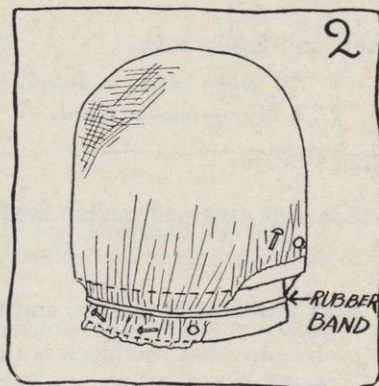

Fig. 2.
- a. Pin, or tack the folded maline (already pinned together) with thumb tacks, over the crown block, keeping it straight from front to back and from side to side, as shown in Sections 2 c and d of Job 39, (see Figure 2 A and B of that job, page 156, but **do not use staples in maline.**)
- b. Slip an elastic over the maline on the crown block, so that the elastic rests on the headsize lift (see Figure 2).
- c. Pull the fullness of the maline down under the elastic so that it falls evenly between the pins (see Figure 2).
- b. Pin the first row of braid to the maline brim so that it extends the desired amount, starting so that the seam will either be hidden, or will come directly over the back wire (see Figure 2 A). Do not cut the hair braid from the piece.